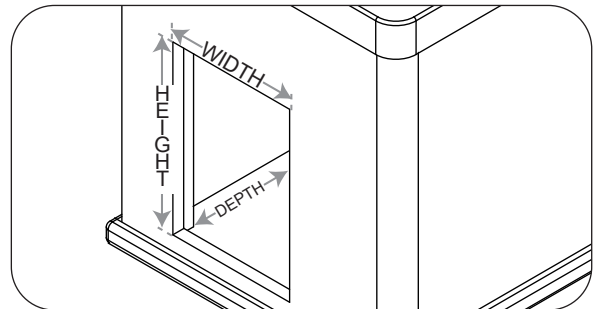

Fig. 1-1 Orientation
1. Create the appropriate cutout in your island enclosure as specified for your model number. See Table 1 and Fig. 1-1.